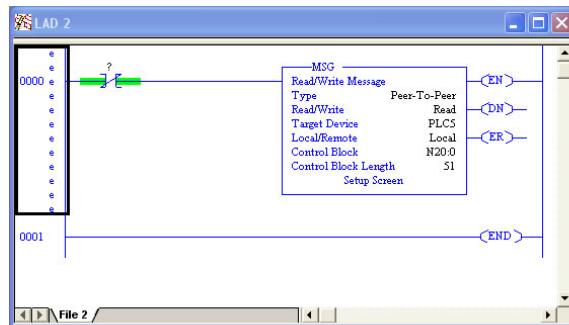

Figure 119: PLC Program after MSG Instruction Configuration
- f) Close the dialog box. At this point, the program should appear as shown in Figure 119.